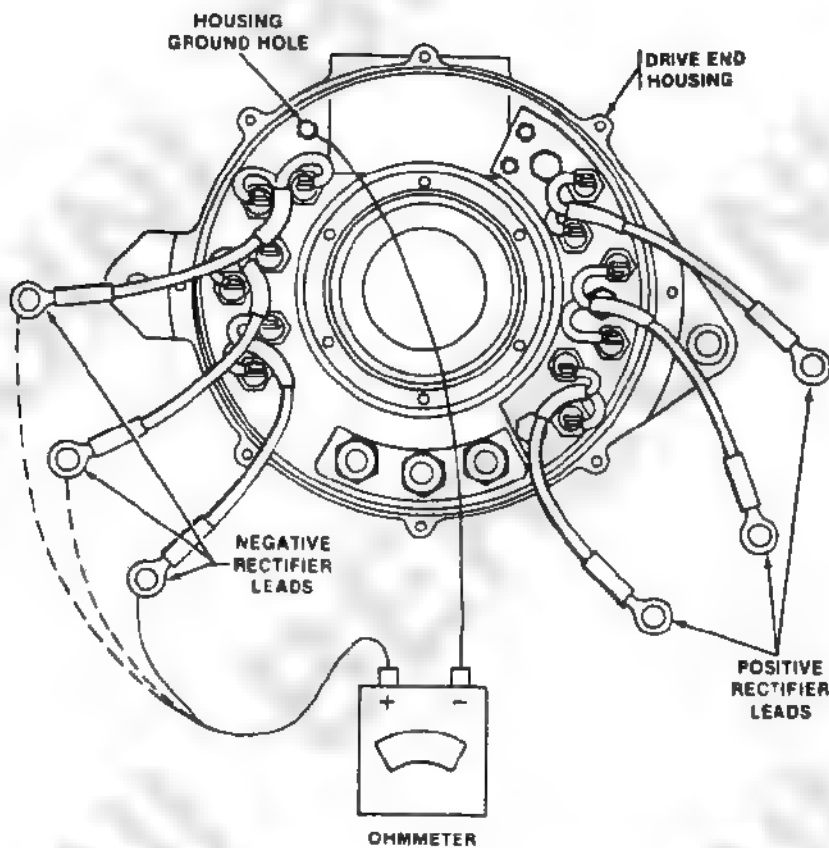

Figure 2-4. Shorted Negative Rectifier Test
Step 6. Check for shorted negative rectifiers. Connect ohmmeter to each of the three negative rectifier leads in accordance with figure 2-4.